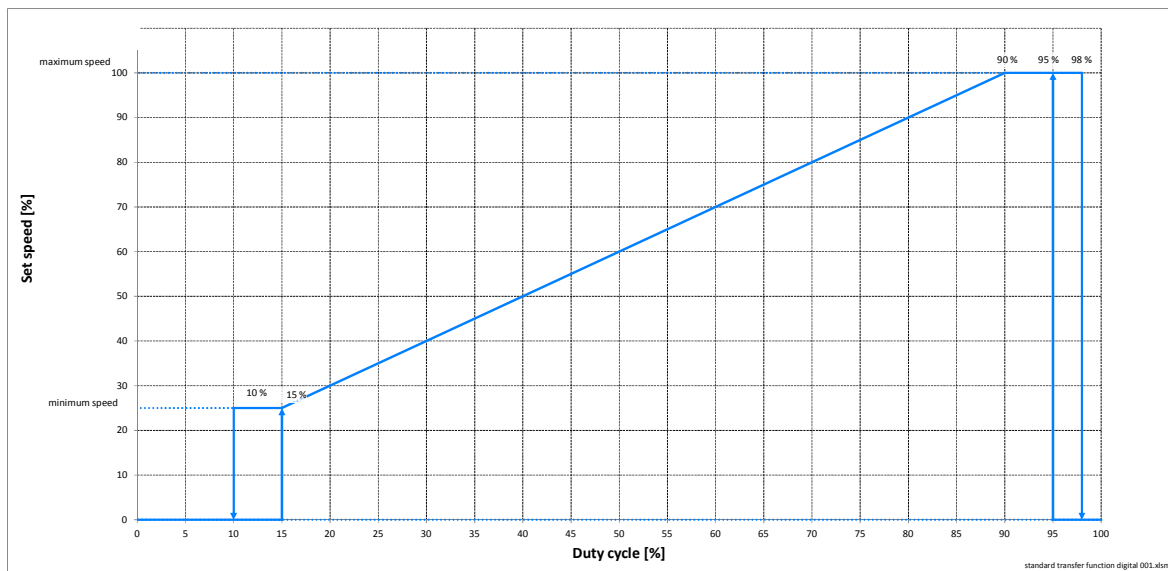
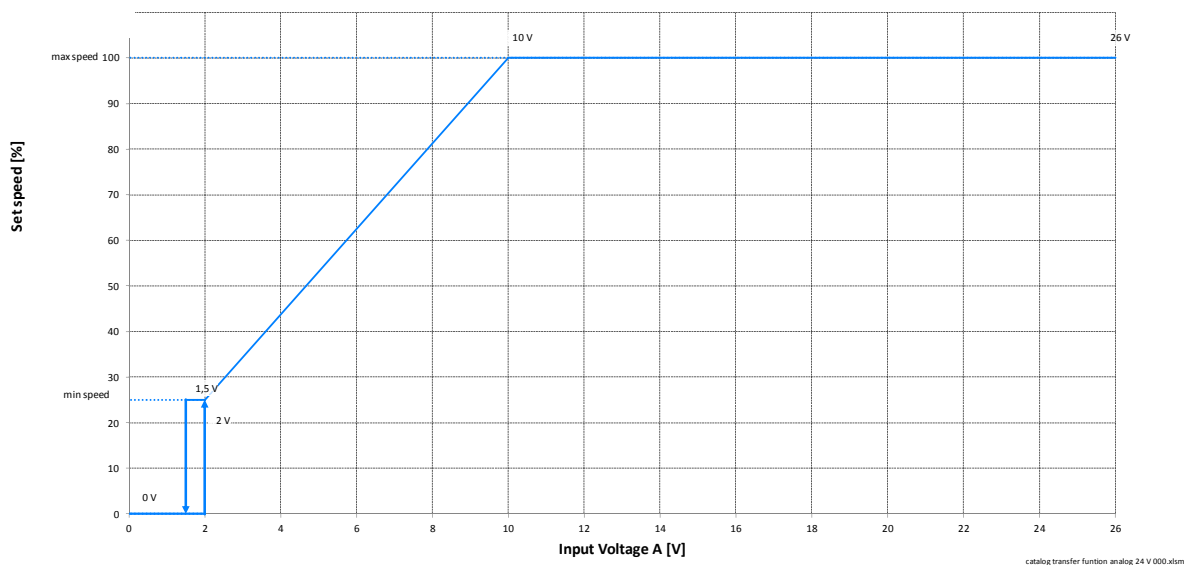

Figure 11: Digital control: transfer function PWM input
Figure 12: Analog control: transfer function analog input
The Drive mode (see Table 7) changes accordingly to the control input duty cycle on pin PWM* / E* (see Figure 11) and the voltage level on analog input A (see Figure 12).
- if the PWM duty cycle on pin PWM* / E* has a value where the Drive is asked to run (see Figure 11 and chapter 8.4) and the PWM duty cycle value is valid according to the chapter 8.3 or
- if the analog signal on pin analog input A has a value where the Drive is asked to run (see Figure 12 and chapter 8.5).
The speed is set according to Figure 11: Digital control: transfer function PWM input and chapter 8.4.
The speed is set according to the Digital control: transfer function PWM input (see Figure 11).
Based on this duty cycle definition the transfer function PWM input is shown in Figure 11.
The transfer function analog input is the relation between the Drive speed and the duty cycle on the pin analog input A (see Figure 12).